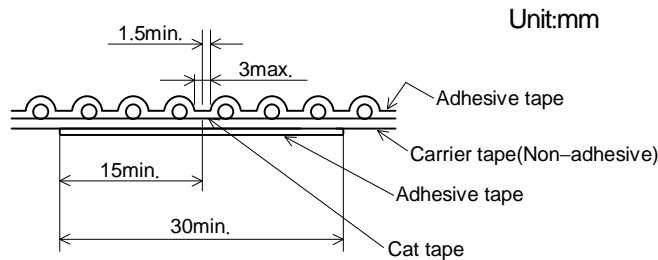

Figure-5
- 9.3.6 The reinforcement of the tape cutting should be reinforced by a new tape (30mm min.) in 3mm limits and insuring 1 pitch dimension as shown in Figure-5.